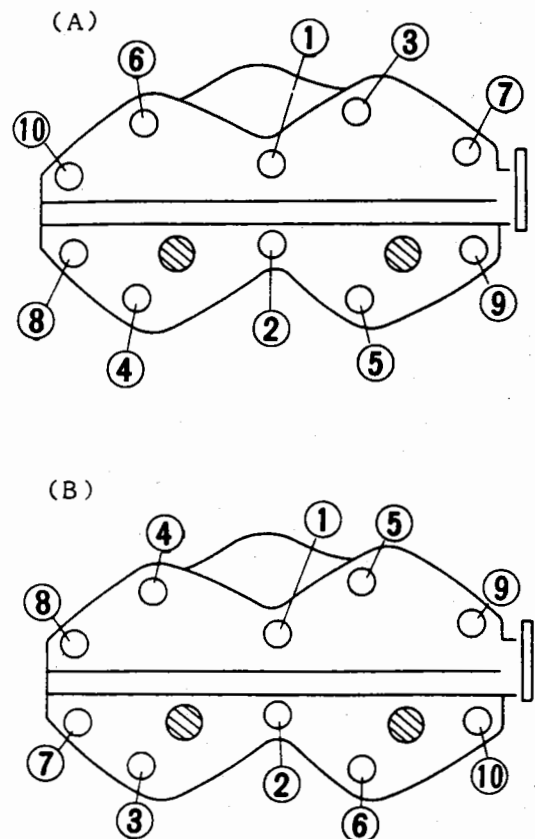

Fig. 53
- 3) When tightening the cylinder head bolts carry out in the order as shown in the diagrams A or B with them divided into a few groups. (Fig. 53)